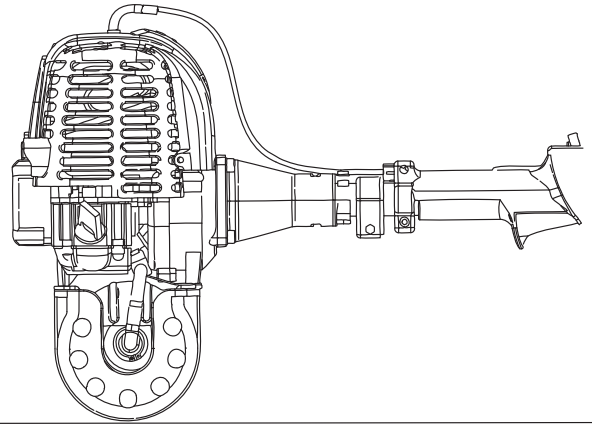

Fig. 6
2. Place the unit on a level surface (Fig. 6).